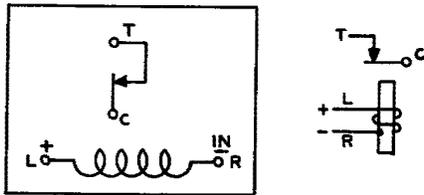

Fig. 57 — Winding and Spring Terminal Numbering as Viewed From the Rear (terminal side) — 283-Type Relay
2.70 As viewed from the rear, the winding and spring terminals are designated as shown on Fig. 57. Referring to the figure, the spring terminals T and C, and the winding terminals L+ and R- are stenciled on the rear of the relay.